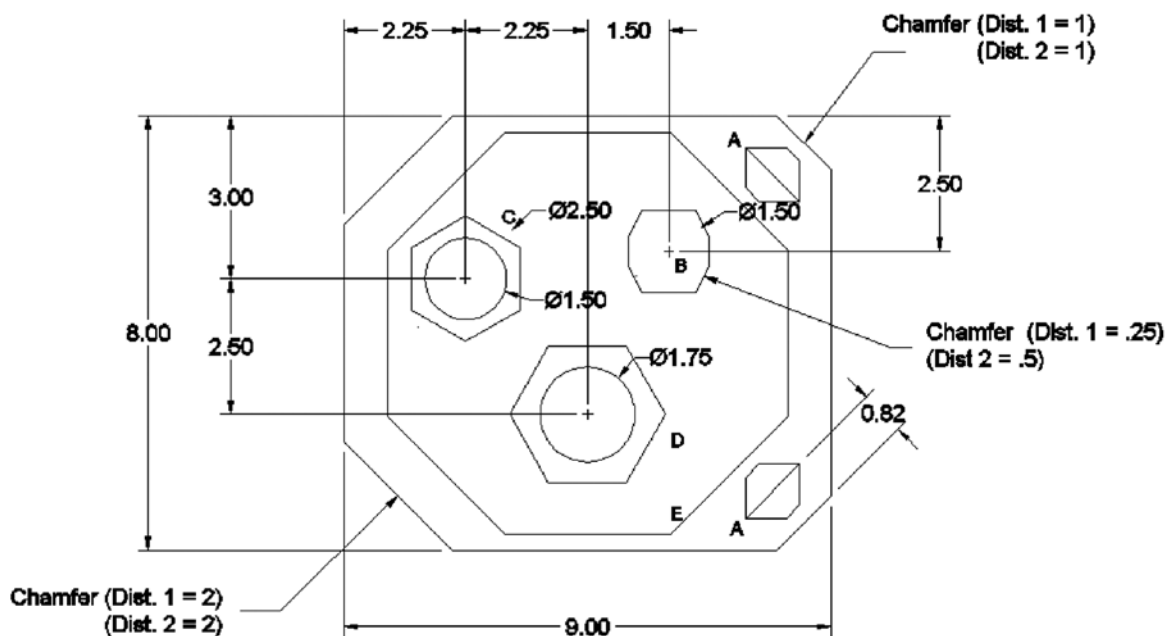

Figure 11.11
- 25. Dimension your drawing so it looks like the drawing in Figure 11.11.